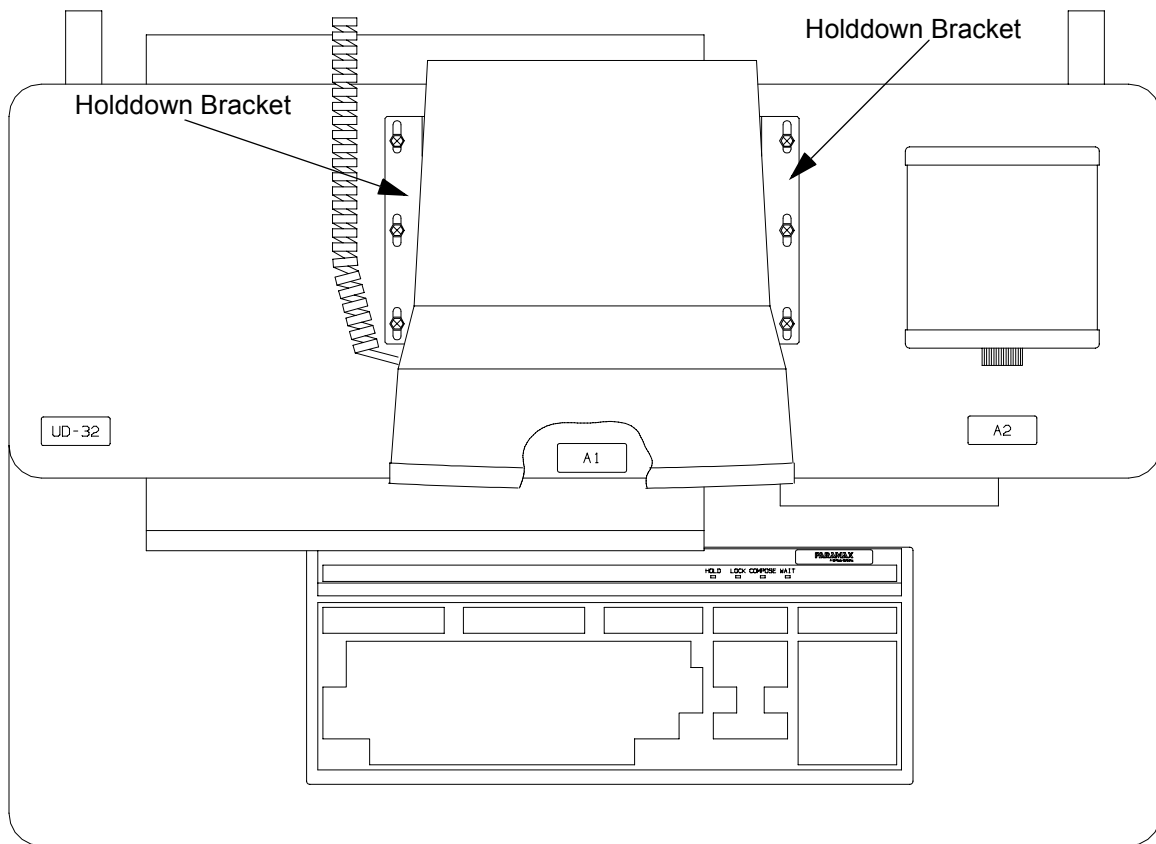

Figure 1 CDT-100 Holddown Bracket Location
- f. Remove the six screws and the bracket holding the CDT-100 to the table. (See figure 1)